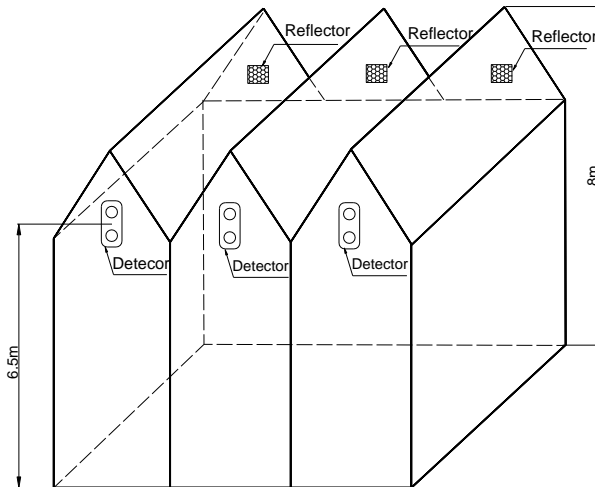

Fig. 7
d) For gable structure with space height about 8m, the detector and reflector should be mounted on the two facing walls 1.5m from the gabled girder, as shown in Fig. 7.